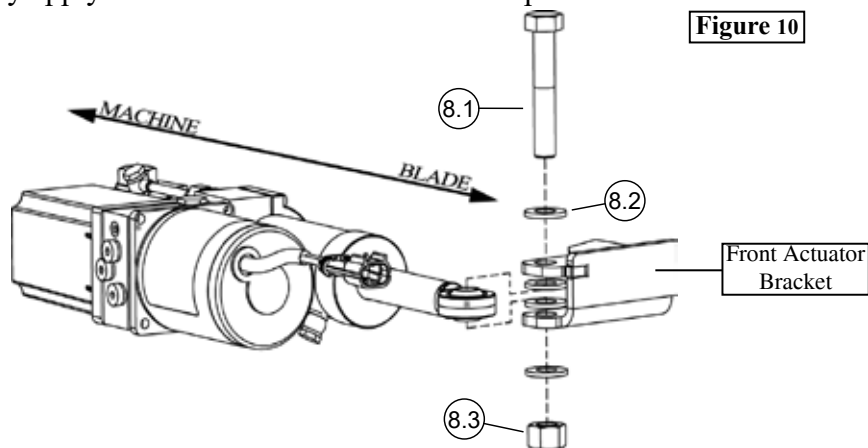

Figure 10
2. Repeat previous step for mounting the front half of the actuator, as shown in **Figure 10**. It is most important that you use the washers to make sure that the actuator is parallel to the cradle swivel point, as shown in **Figure 11**. Both front, and rear bolts should not be tight, thread the nut on until Nylock is fully engaged.
2. Repeat previous step for mounting the front half of the actuator, as shown in Figure 10. It is most important that you use the washers to make sure that the actuator is parallel to the cradle swivel point, as shown in Figure 11. Both front, and rear bolts should not be tight, thread the nut on until Nylock is engaged.